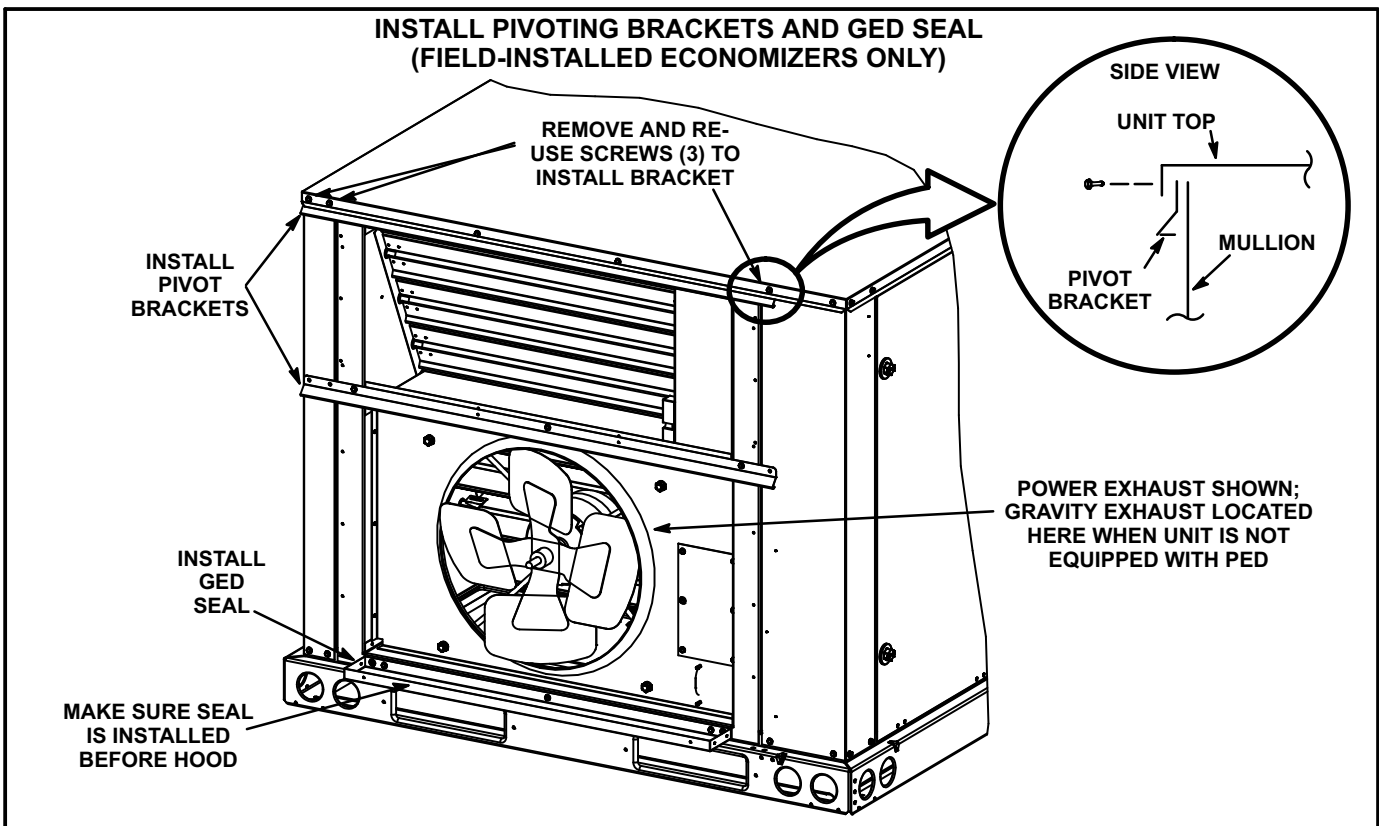

FIGURE 6
- 2- Install pivot brackets and seal on unit as shown in figure 6.